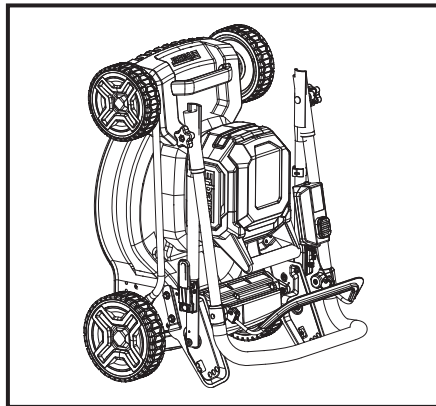

Fig. 20
1. Switch the product off and remove the battery pack (23) before storage.
3. Suggest folding the handle assembly and storing the product vertically to save space (Fig. 20).